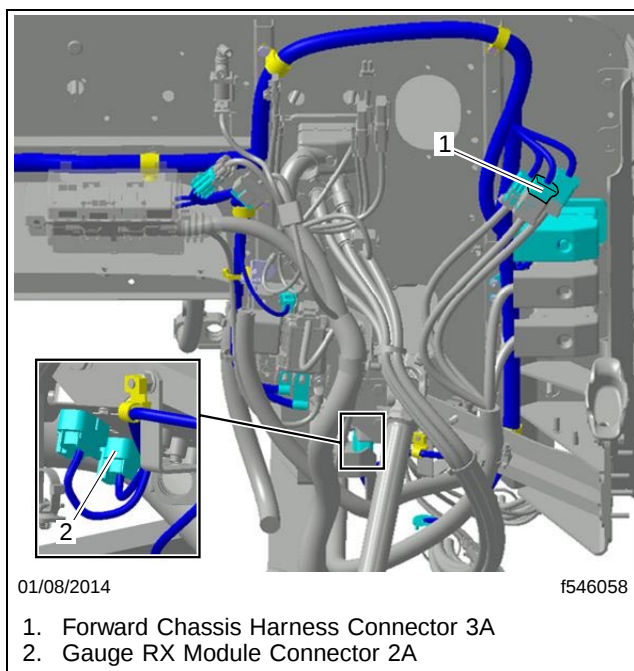

Fig. 1, Rear Axle Harness Locations
5. Disconnect the forward chassis harness connector 3A. See **Fig. 1**.